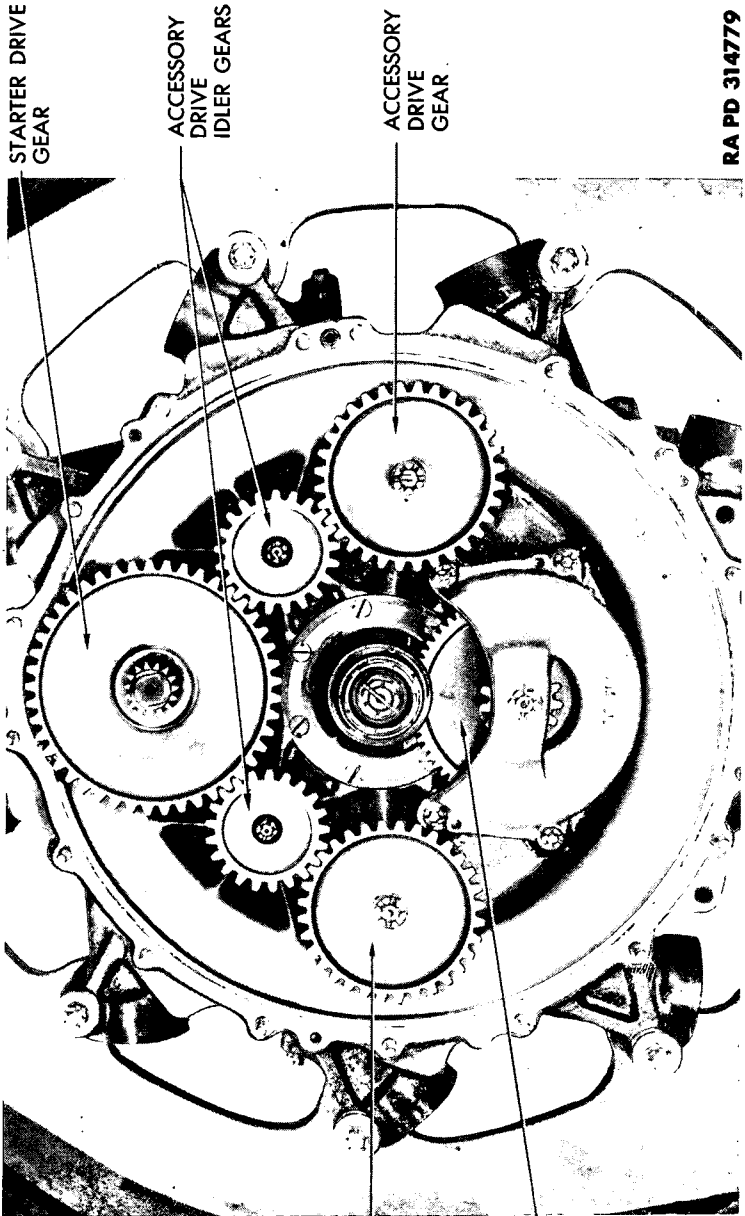

Figure 9 — Accessory Drive Mechanism
j. Accessory Drive Mechanism (fig. 9).
(2) **STARTER DRIVE GEAR.** The crankshaft gear meshes directly with the starter drive gear (fig. 9). The starter gear is the upper of the two gears driven by the crankshaft gear. The starter drive gear is splined on the starter shaft which extends through the diffuser to the rear crankcase section and also carries the starter shaft gear at the rear (fig. 185). The starter drive gear is retained on the starter shaft by the starter shaft bolt which passes through the entire length of the starter shaft and carries the cam driven pinion gear on its forward end.
(4) **ACCESSORY DRIVE GEARS.** The starter drive gear meshes with two accessory idler gears which, in turn, mesh with and drive two accessory drive gears (fig. 9). These drive gears are keyed to the forward ends of the accessory drive shafts which extend through the diffuser to the rear crankcase section.
(7) **IMPELLER DRIVE GEAR.** The crankshaft gear (subpar. (1), above) also drives the impeller drive gear (fig. 9) through the medium of the smaller gear of a pair supported by an intermediate shaft bracketed to the front wall of the diffuser section. As the smaller gear turns the shaft, it causes the impeller drive gear to turn. This gear meshes with the impeller shaft gear to drive the impeller.